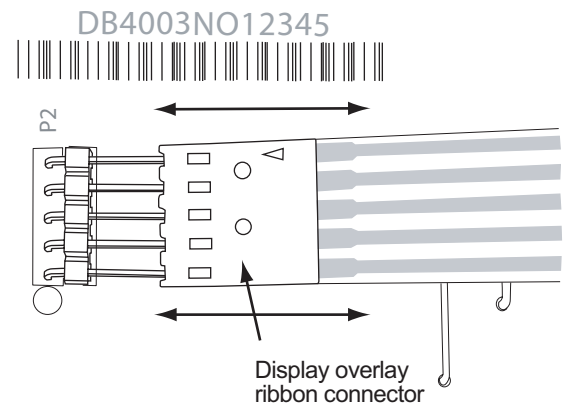
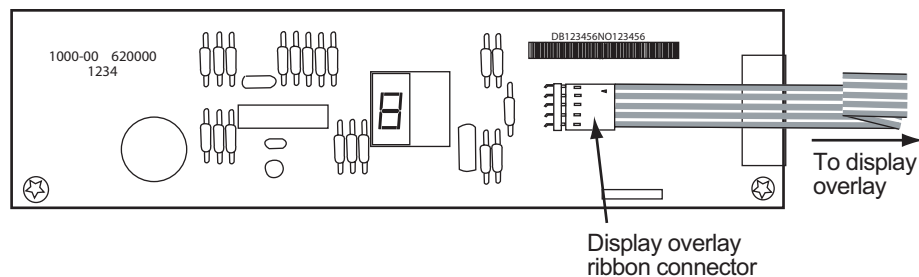

Figure 42. Connecting/disconnecting connector
Figure 43. Optical display circuit board
9. Remove the board bracket retaining screws (2).
11. Disconnect display overlay ribbon connector from optical control circuit board. See Figure 42 and Figure 43.
14. Connect display overlay ribbon connector to optical control circuit board. See Figure 42.